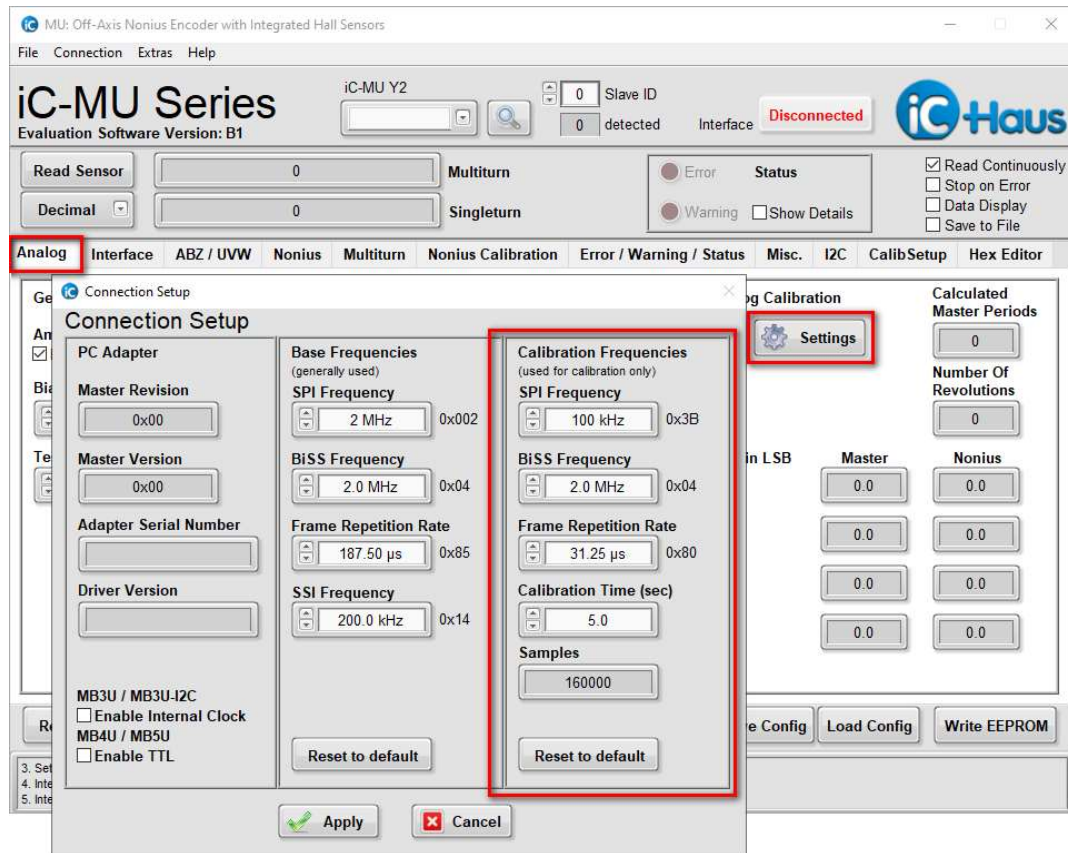

Figure 10: iC-MU Series GUI, Interface Setup
12. The interface settings for the calibration data acquisition can be adjusted under tab <Analog> → <Settings>, see Figure 10. Please see chapter ANNEX for further information on SPI and BiSS calibration settings.